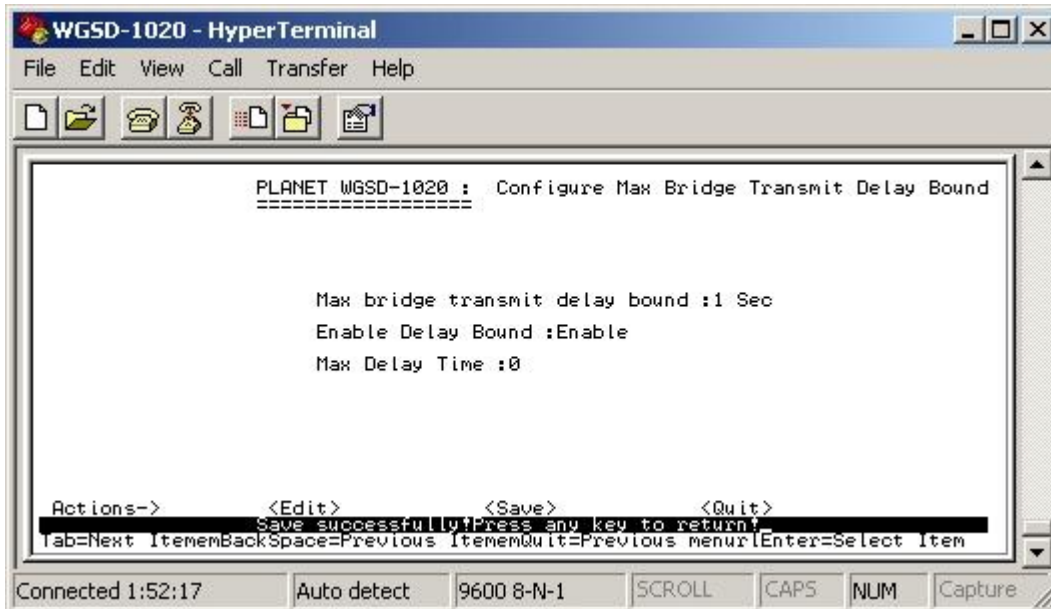

Figure 4-44 Enable Delay Bound save successfully screen
2. After setup completed, press "Ctrl-A" to "Action menu" and choose "save" to save the current configure. The screen in Figure 4-44 appears.